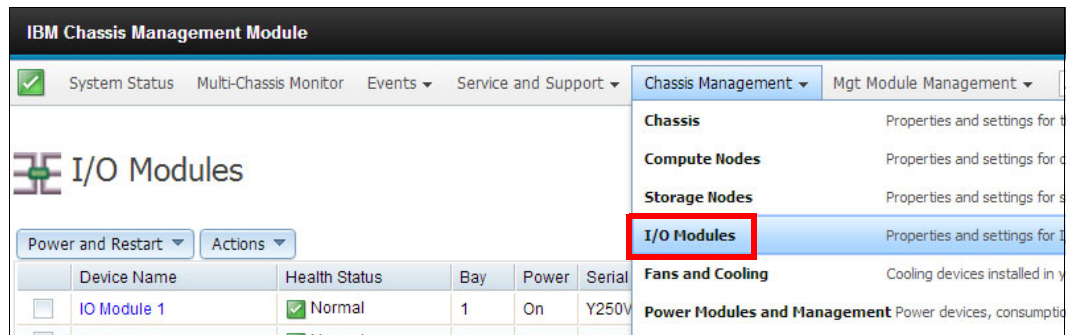

Figure 2-11 IO Module menu
2. Browse to the Chassis Management menu, then select **IO Modules**, as shown in Figure 2-11.